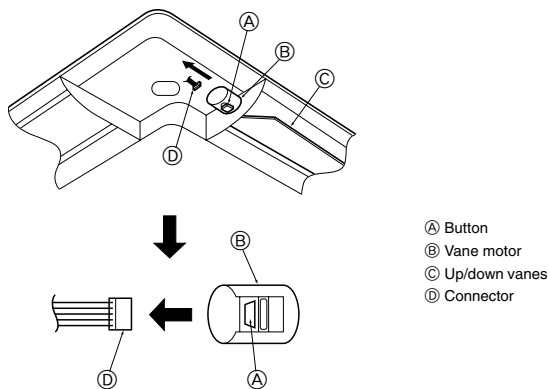

Fig. 8-9
8.4. Locking the up/down airflow direction (Fig. 8-9)